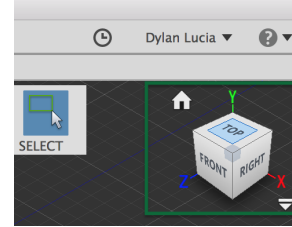
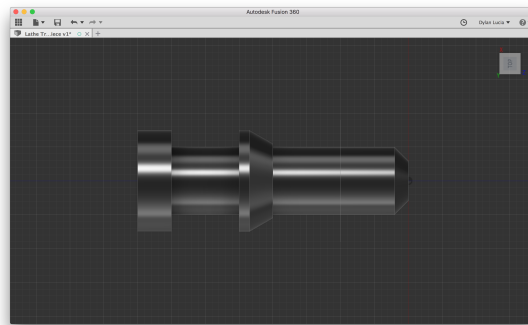

FIGURE 1.8: THE VIEW CONTROLLER.
FIGURE 1.9: A GOOD VIEW FOR CREATING TOOLING PATHS.
- Use the View controller in the top right, Figure 1.8, to position your view to the top view such that your view matches Figure 1.9.